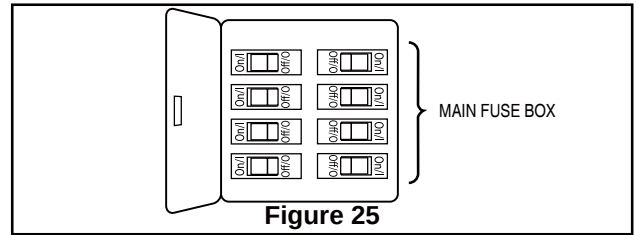

Figure 25
- ☐ 1. Restore electrical power to the outlet box by turning the electricity on at the main fuse box. (Figure 25)